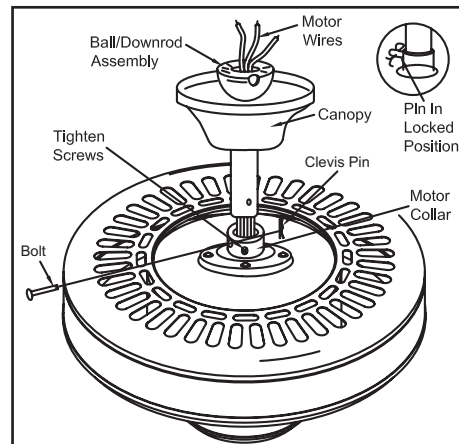

Figure 6
2. Route the wires exiting the top of the fan motor through the canopy and then through the ball/downrod assembly (Figure 6).
4. Align the holes at the bottom of the downrod with the holes in the collar on top of the motor housing (Figure 6). Carefully insert the bolt through the holes in the collar and downrod. Be careful not to jam the bolt against the wiring inside the downrod. Insert clevis pin and bend to ensure security, as noted in circle inset of Figure 6.
5. Re-tighten the two screws on the collar on the top of the motor housing (Figure 6).